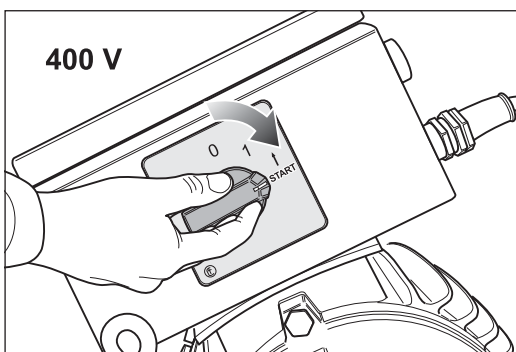
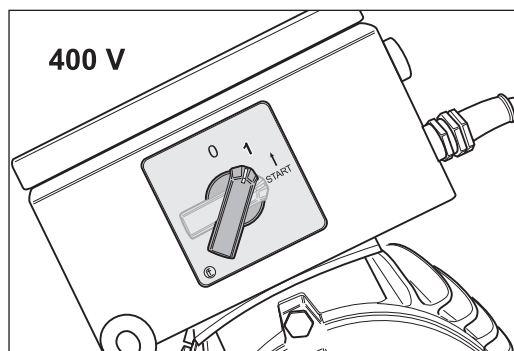

Fig. 15 To switch on the motor turn the switch button to position -START-.
Fig. 16 Release the switch button. The button turns automatically in position -1-.
- 2 To switch on the motor turn the switch button to position -START- (Fig. 15) and release the switch button. The switch button will then automatically move to position -1- (Fig. 16).